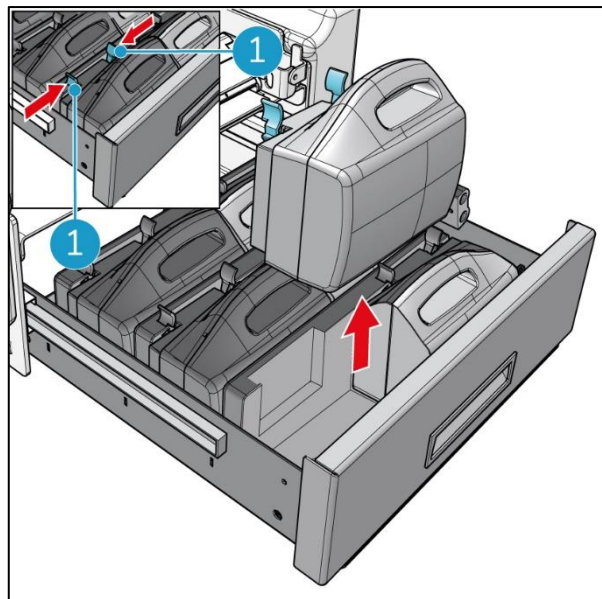

Figure 66
4. Press the clips (Figure 66, pos 1) of each i-power® 14 battery pack slightly towards each other and lift it out.